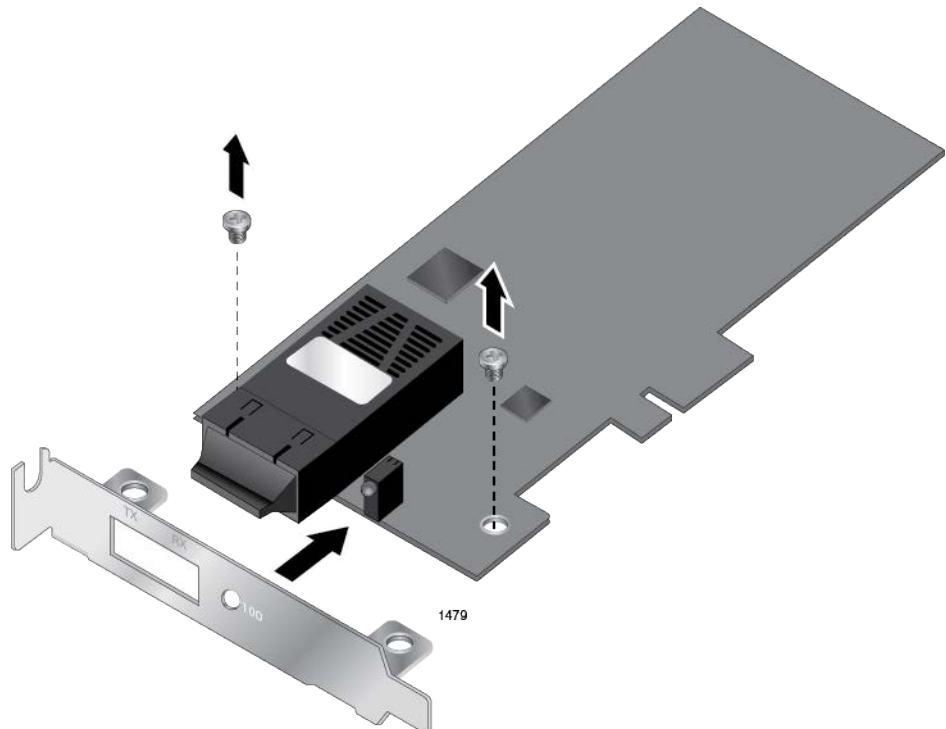

Figure 10. Removing the Low-Profile Bracket
1. Remove the screws that attach the bracket to the adapter. See Figure 10.